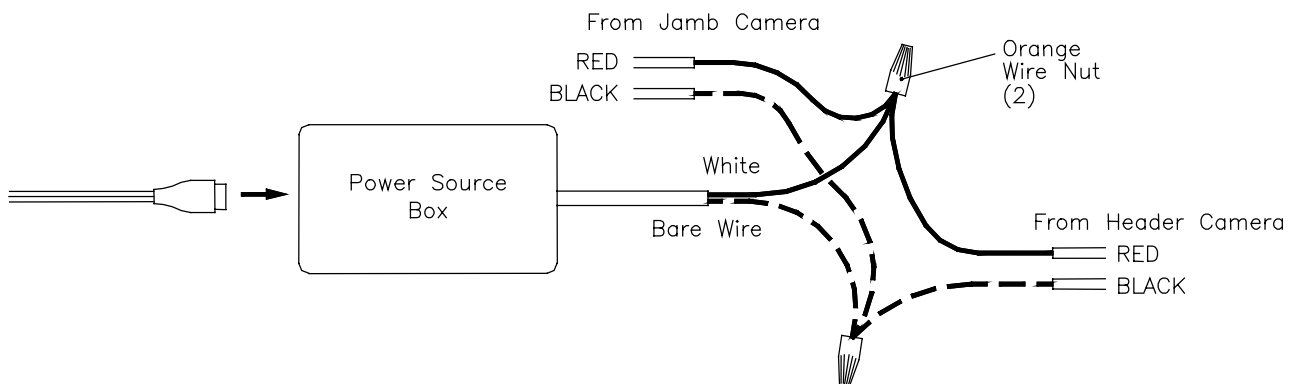

FIG. 9
2. Cut and strip both camera cables (as required) to connect to the power supply as shown in FIG 9. Use (2) orange wire nuts to make the connections.